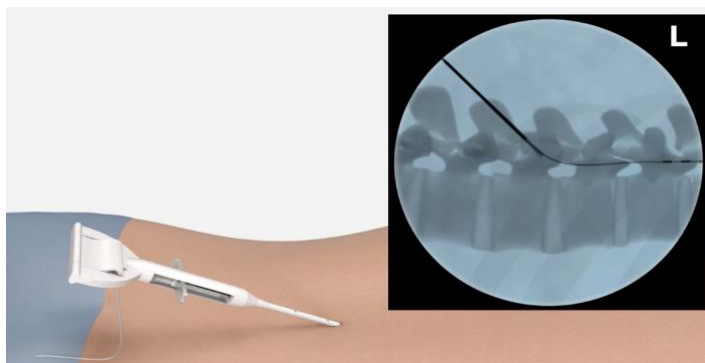

Figure 7
8. Deploy the SandShark Anchor by pulling back on the handle. (Figure 7)